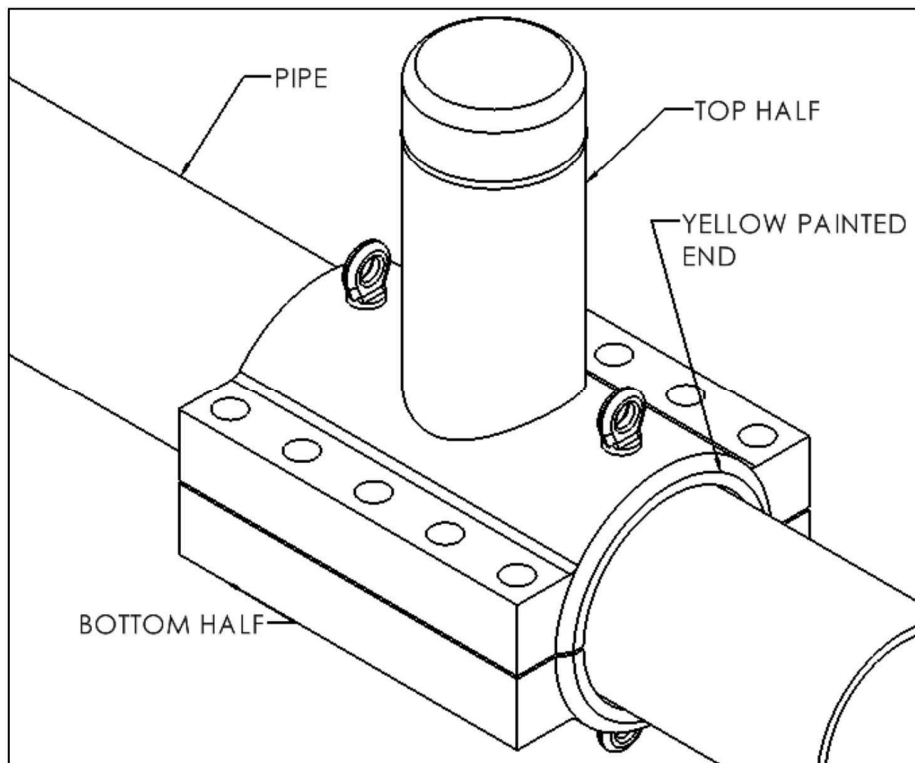

Figure 4
4. Assemble the PLIDCO Tap+Enclosure around the pipe and centered over the tap or obstruction being covered. Make sure the yellow painted ends are together as shown in Figure 4. At no point should any weld, leak, or anomaly be closer than ½" from the circumferential seals. Try to avoid having any leak spraying directly onto the longitudinal seals.